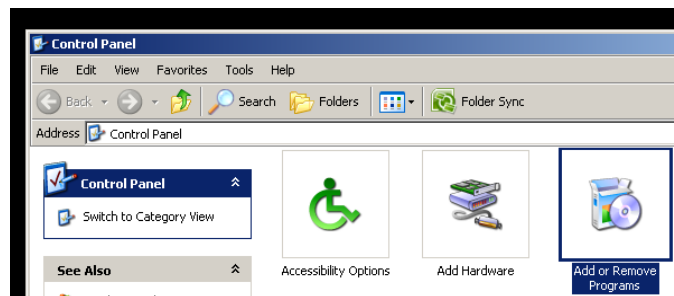

Figure 2-3: Windows Control Panel
b) Select and launch *Add or Remove Programs* as shown in Figure 2-3.